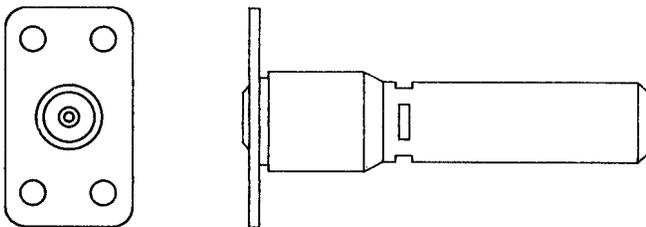

Fig. 3—801A or B Connector
2.05 801A and B: The 801A and B connectors (Fig. 3) have at the mounting end, a center conductor arranged for soldered wire connection. These connectors are not arranged for connection to a coaxial cable. The other end of the connectors is arranged for use with a 477A jack. The bodies are electrically common with the mounting plate. The 801A and B are coaxial-type connectors.